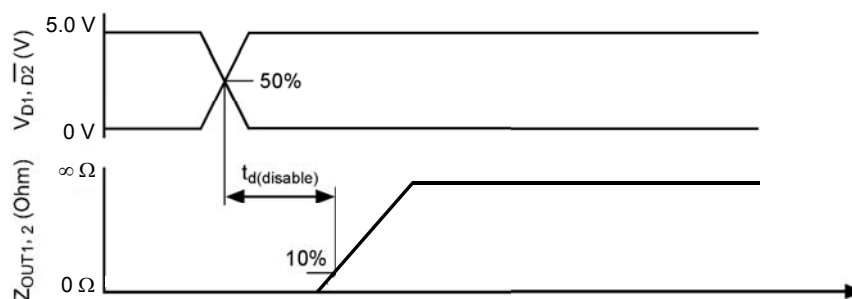

Figure 3. Disable Delay Time
27. Disable Delay Time is the time duration from the midpoint of the D (disable) input signal to 10% of the output tri-state response. See Figure 3, page 11.